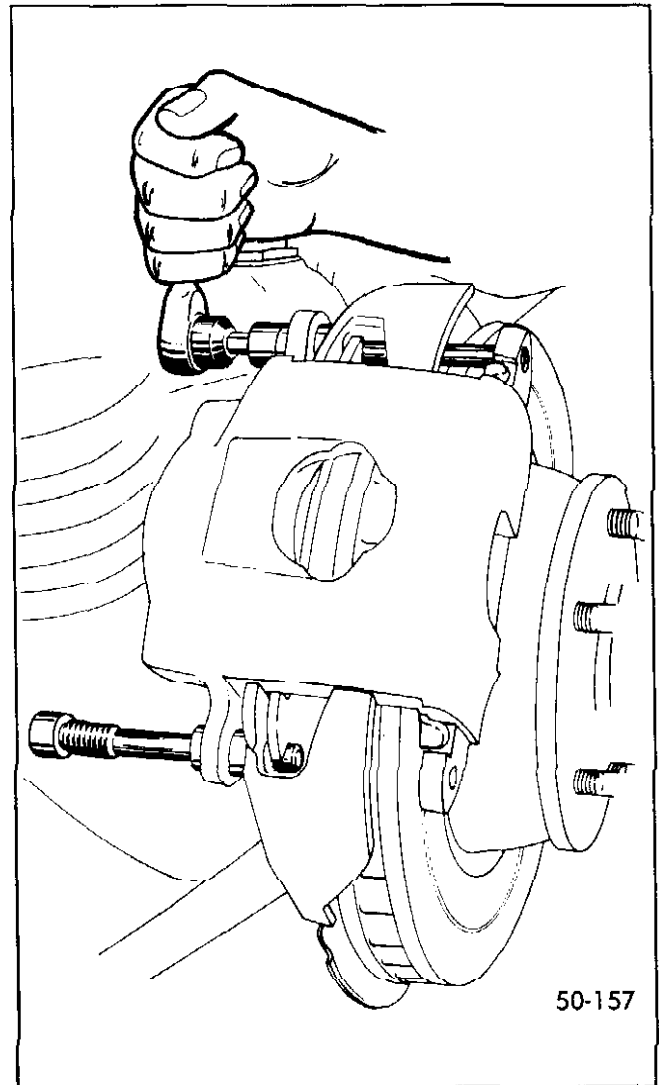

Figure 50-46--Removing Mounting Bolts
3. It is not necessary to disconnect the brake hose for shoe and lining replacement. Remove the two mounting bolts which attach the caliper to the support bracket. See Figure 50-46. Lift the caliper off the rotor and remove the inboard shoe. Dislodge the outboard shoe and position the caliper on the front suspension arm so that the brake hose will not support the weight of the caliper. Remove the shoe support spring from the cavity in the piston.